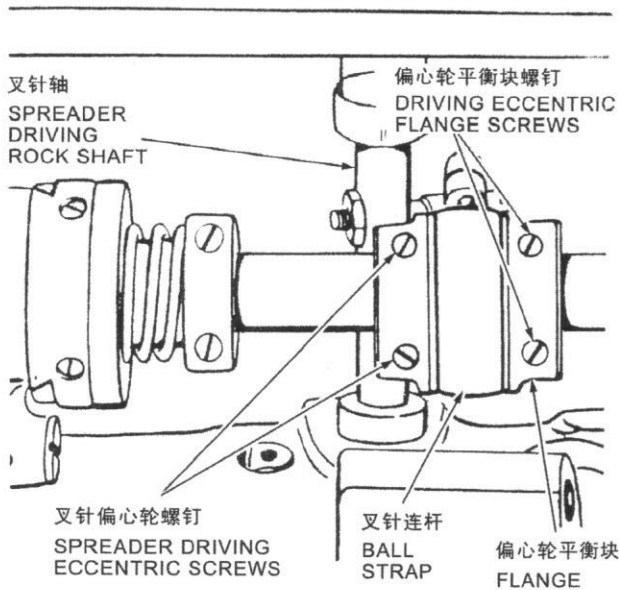

图 34 / Fig.34
**CAUTION:** When increasing sidewise movement, allow sufficient clearance between spreader driving rock shaft, Fig. 34, and left side of eccentric ball strap. They should not touch when eccentric ball stud is in its highest position.
叉针的横向运动在异常缝纫条件下可以调整。在正常条件下，通常使用最大的叉针运动。需要调整时，将机器向后倾斜在其铰链上，松开2个叉针偏心轮螺钉(图34)和2个偏心轮平衡块螺钉。向左移动偏心轮增大运动，或向右移动偏心轮减小运动。位置正确后，先锁紧2个叉针偏心轮螺钉，保持平衡块紧靠叉针连杆并锁紧平衡块螺钉。可查阅前面所述关于叉针安装的资料。
**注意：**增大叉针横向运动时，叉针轴(图34)与叉针连杆右边之间要有足够的间隙，保证叉针连杆在最高位置时，它们不会碰撞。
The sidewise movement of the spreader may be adjusted for sewing under abnormal conditions. Under normal conditions, maximum spreader movement is generally used. To adjust, tilt machine back on its hinges, loosen the two spreader driving eccentric screws, Fig. 34, and the two spreader driving eccentric flange screws. Move eccentric to left to increase movement, or to right to decrease movement. When correctly positioned, tighten the two spreader driving eccentric screws first, hold flange against strap and tighten flange screws. Then refer to preceding information regarding positioning of spreader.